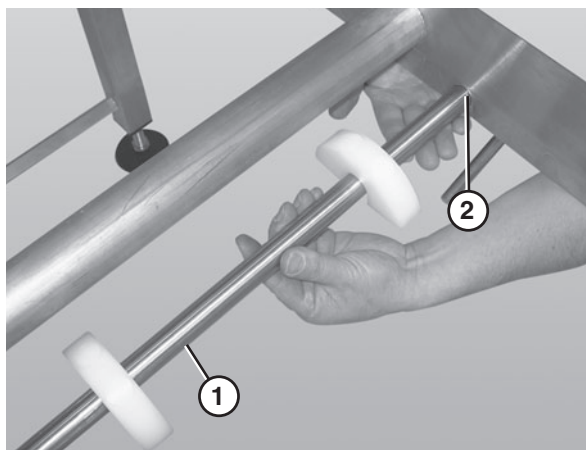

Figure 49
2. Slide the return shaft (**Figure 49, item 1**) up and through the large slot (**Figure 49, item 2**) in the frame (picture shown without the belt or wear strips).
3. Push up on the return shaft (**Figure 49, item 1**) and slide the notched end of the shaft through the small slot on the opposite side of the frame.